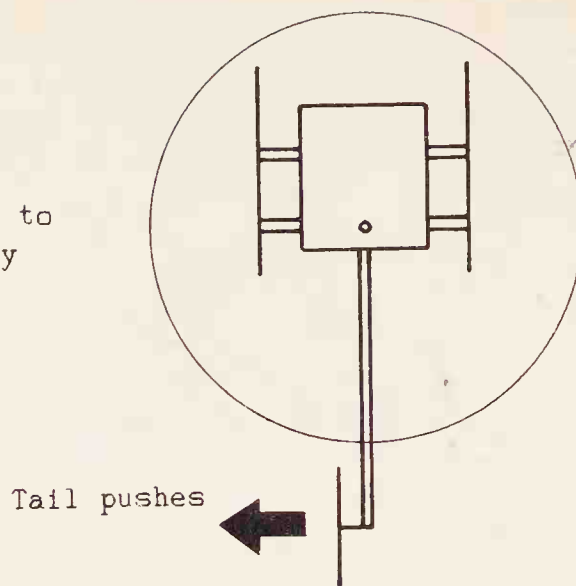

Fig. 51 Tail pitch.
- (b) To counteract this, the tail rotor must produce a push to the left and the blades must be set so that normal rotation will produce a thrust in that direction (Figure 51).